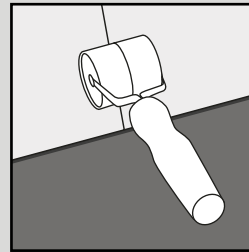

Fig. 4
5. Continue to install planks across the room until the row is complete using a hand roller to assist (Fig. 4). Only if necessary, use a rubber mallet and an offcut of the product to gently tap the product. A pull bar can be used to pull the product together around the edges of the room (Fig. 5).